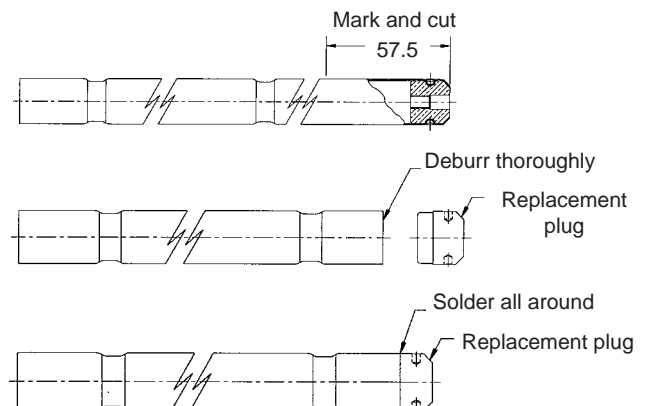

Figure 2
- 3 Mark the inner conductor where it should be cut with the **bellows fully extended** to its mechanical stop position. If the mark falls within a "...do not cut..." zone, refer to "Special Cut Procedure" Figure 2, before proceeding with step 4.